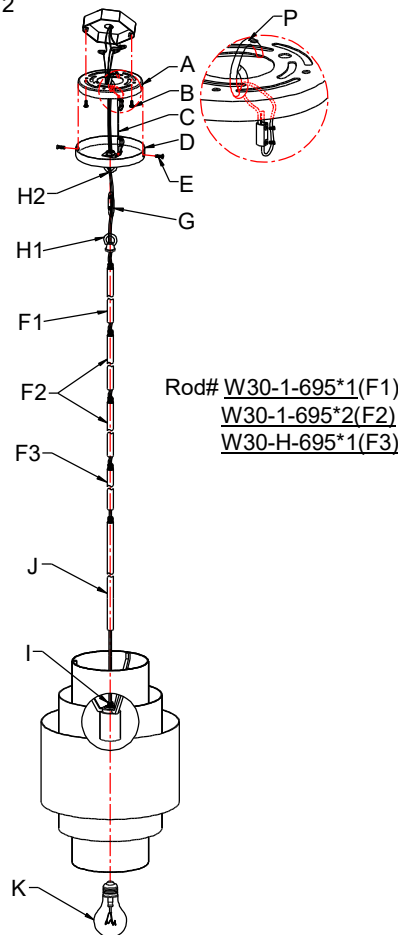

Fig. 2
CONNECTING THE WIRES (Fig. 2)
8. Connect the electrical wires as shown in fig 2, making sure that all wire connectors are secured. If your junction box has a ground wire (green or bare copper), connect the fixture's ground wire to it. Otherwise, connect the fixture's ground wire directly to the mounting plate (A) using the green screw provided.